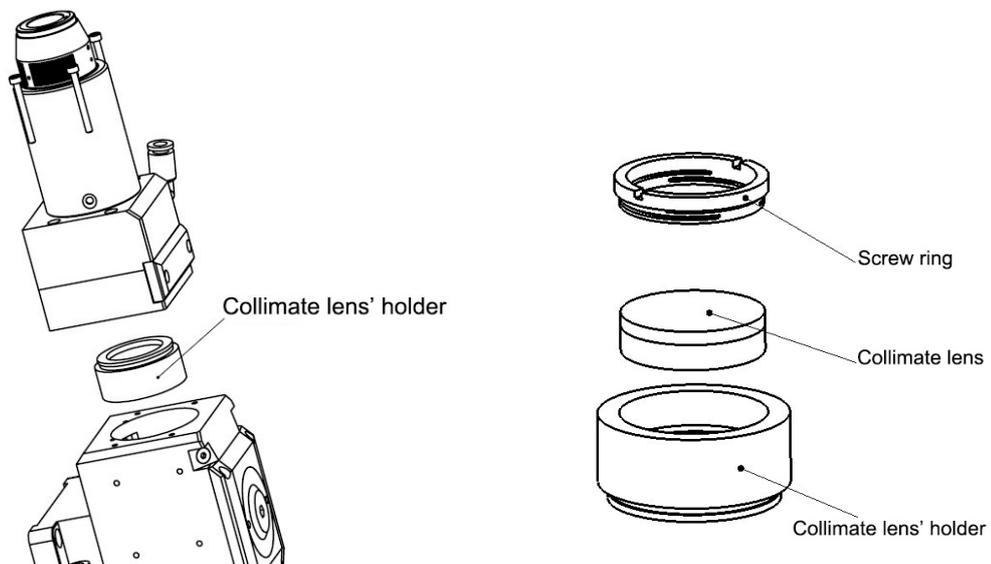

Figure 13. Collimate lens with lens' holder.
(1) Disassemble the cutting head and clean up all the dust on the surface of the head in a clean place;
(2) Loosen all the screws of the collimate lens unit showed in figure 13 by hexagonal screw driver in 3mm, and kindly suggest you use masking tape to cover the part connecting with collimate lens for preventing dust coming inside;
(3) Take out of the collimate lens with lens' holder by the optics resemble tools and then take out of the screw ring and collimate lens by the same tool;
(4) Clean or change the collimate lens;